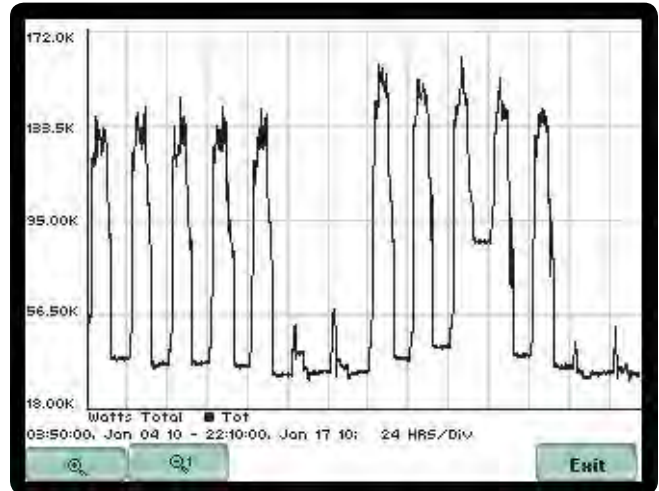
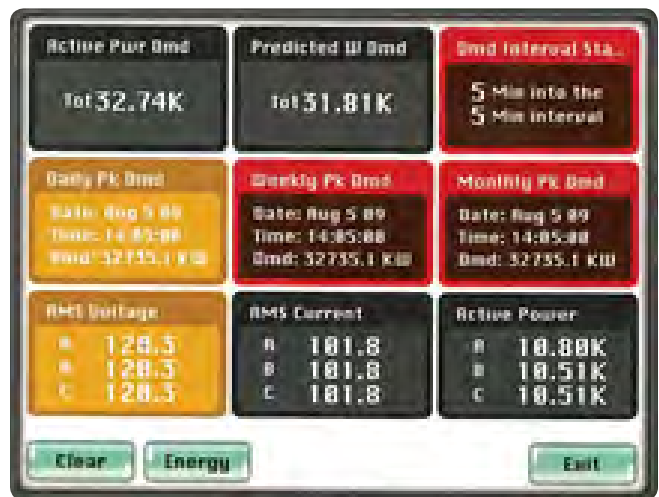

Figure 4a. EP1 can display the demand trend during desired period.
Figure 4b. The combination of the EP1 and its report writing software EPRW provides a powerful set of reporting tools.
*The EP1 analyzer's color touch screen provides a user-friendly means of displaying energy information. Figure 4a depicts a two-week demand trend from a light manufacturing facility. As shown in this example, the user can choose any parameter to trend over time or review event lists with details of triggers that have occurred. Figure 4b shows the EP1's color-coded alarm panel indicating trigger conditions that have been recorded during the monitoring session. A green square mean no alarm or trigger conditions have been met for that parameter. Yellow means a trigger condition alarm has occurred while the red squares indicate a severe trigger has been met. The panel on the EP1 provides significant time savings and an easy-to-read visual interface as part of the survey database. Without this alarm panel, users would have to review trends and lists of events to determine what triggers have been recorded.*